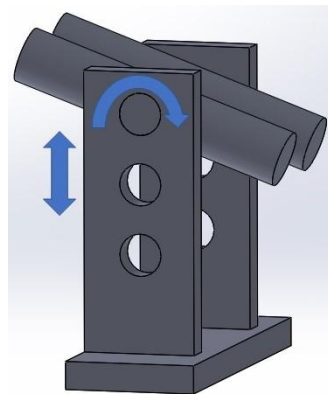

Figure 1: The concept of the human nostril model with the ability of the height and angular orientation variation.
Therefore, this competition aims to design and build a fully autonomous robot with appropriate sensory feedback to collect swab samples from human nostrils for the COVID-19 test. The human nostrils can be modeled using two mini tubes, as shown in Fig.1. The robot should be able to automatically adjust its path to accommodate the natural variation of the human nostril position and orientation, as described in Fig. 1. The robot is expected to be fixed with the base. Once the sample is taken, the sample stick should be put into a test tube (which has a barcode attached to it containing patient information) as located in a pre-defined position. Therefore the robot movement can be considered as a point-to-point movement where the first point (point to take a sample) can be varied for different people. The robot should be tested in three different postures.
- (a) Development of a functional prototype of an autonomous robot for sample collection for COVID-19 test from human nostrils (as described in Fig. 1) with minimum or no operator intervention,